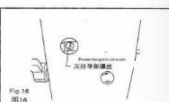

图16 Fig.16
十三. 压脚高度的调节 (图16) Adjustment of the height of the presser bar (Fig.16)
1. 拆下面板上的孔塞 (图16)
1. Take off the rubber plug in the hole from the face plate, as shown in Fig.16.